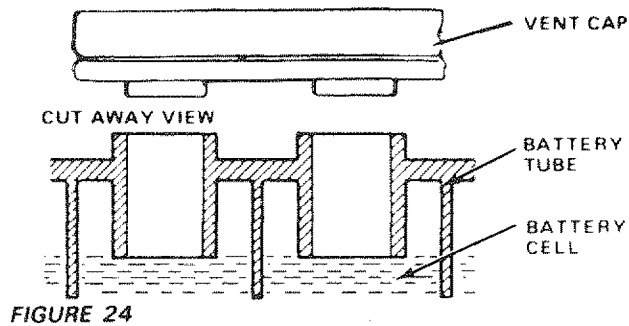

FIGURE 24
- a. Battery acid level in each battery cell should be even with bottoms of tubes in cells (Fig. 24). Add ONLY distilled water if necessary. NOTE: DO NOT OVERFILL.